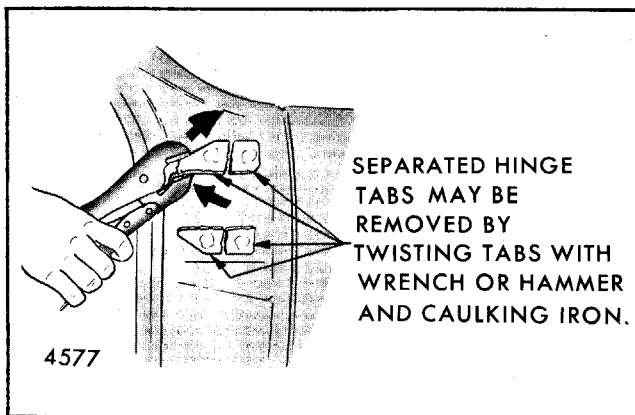

Fig. 5-96-Body Side Hinge Strap Removal
5. Mig welds holding separated hinge tabs can be broken by twisting or rotating the individual hinge tab segments with suitable tool, such as grip type pliers, pipe wrench, etc., (refer to Fig. 5-96).
5. Mig welds holding separated hinge tabs can be broken by twisting or rotating the individual tabs as shown in Figure 5-96, using vise grip type pliers, pipe wrench or hammer and caulking iron (or other suitable tools).